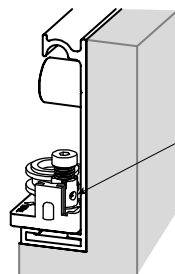
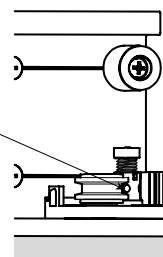

Figure 13
Figure 14
- Tighten the cable clamp using a flathead screwdriver and maintain hole alignment while tightening, as shown in **Figure 13** and **Figure 14** below.